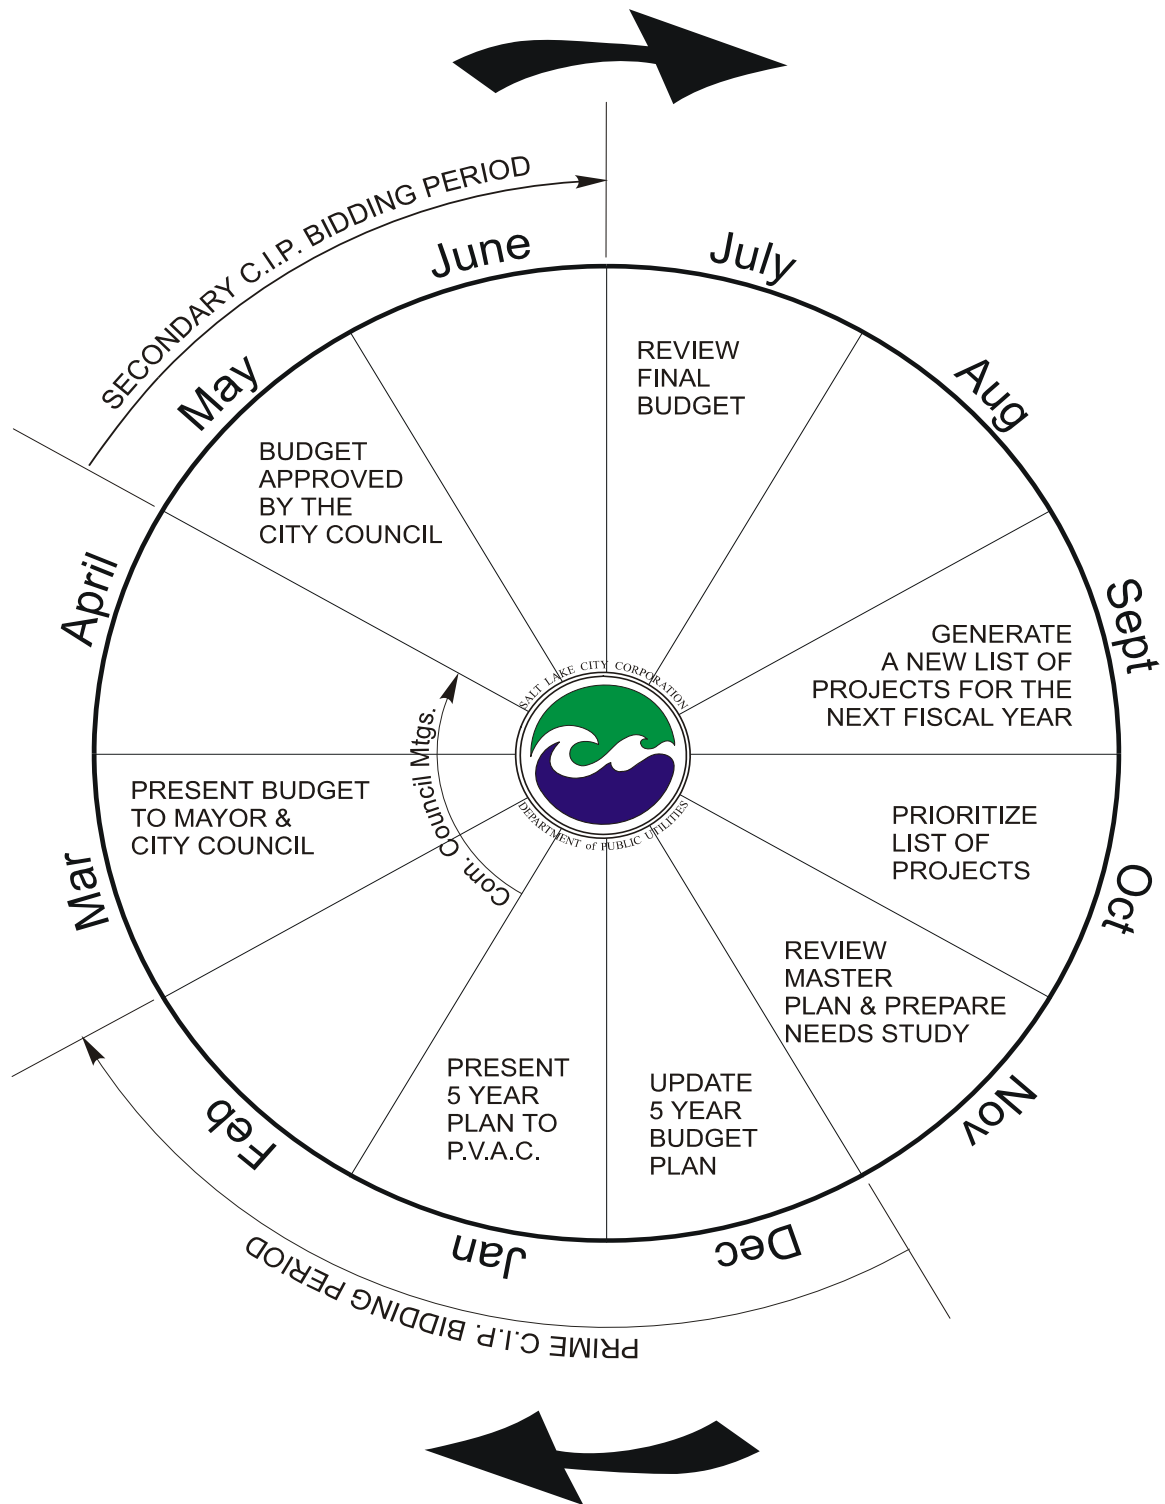

Figure 1- C.I.P. Budget Cycle
3. Projects are prioritized and placed on the 5-year plan (see Figure 1 CIP Budget Process).